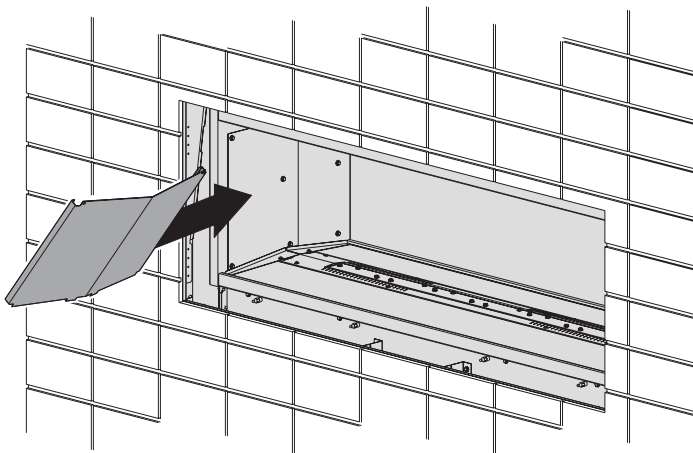

Figure 1
1. With the tabs pointing downwards, insert the panel into the firebox and engage the tabs into the slots on the firebox floor as shown in **Figures 1 and 2**.